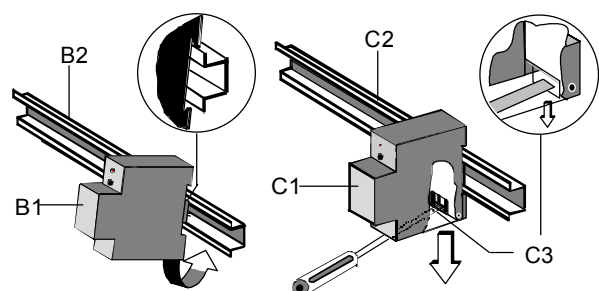

Figure 2: Mounting and dismantling a DIN-rail device
- Snap the IP Control Center N152 (Figure 2, B1) on to the DIN rail (Figure 2, B2).
- Remove the device (Figure 2, C1) with the catcher (Figure 2, C3) from the DIN rail (Figure 2, C2)